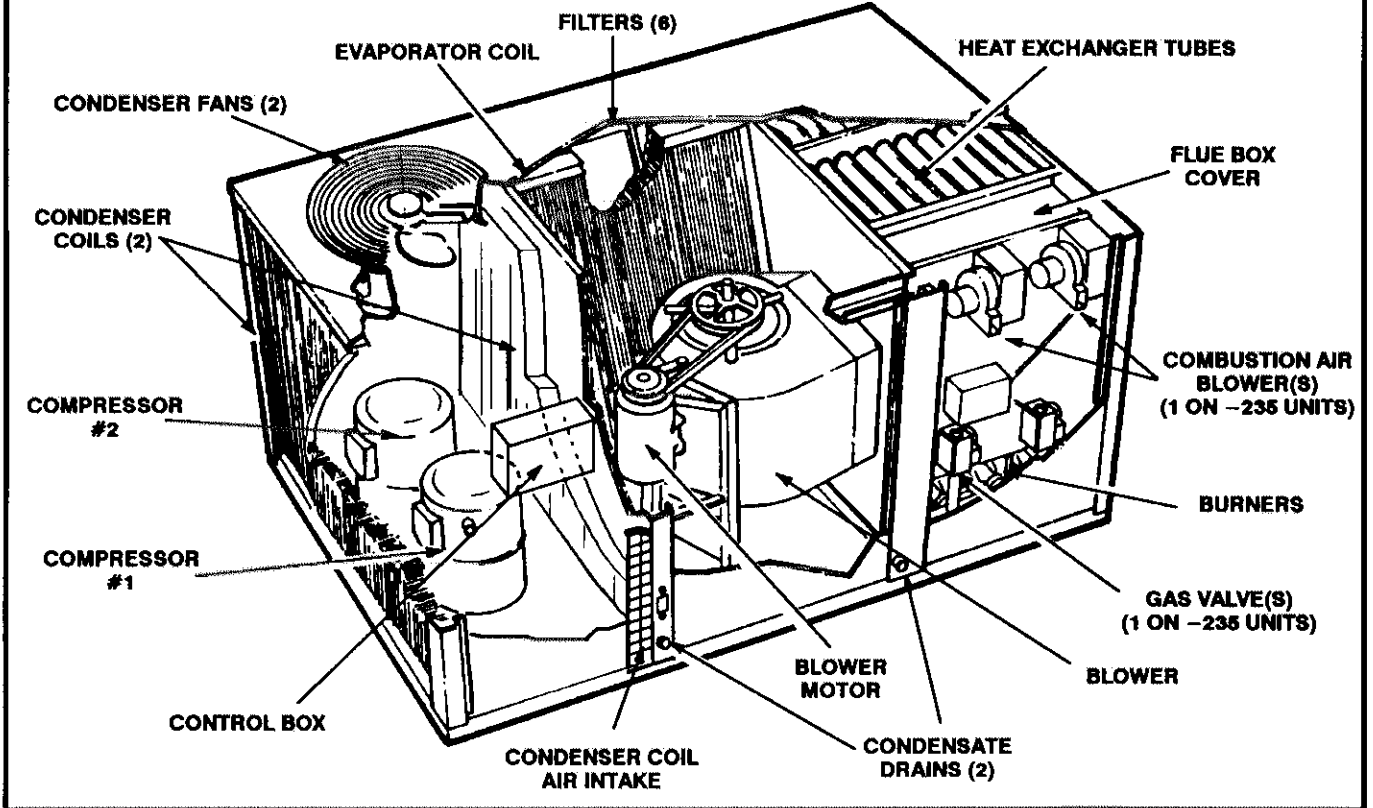
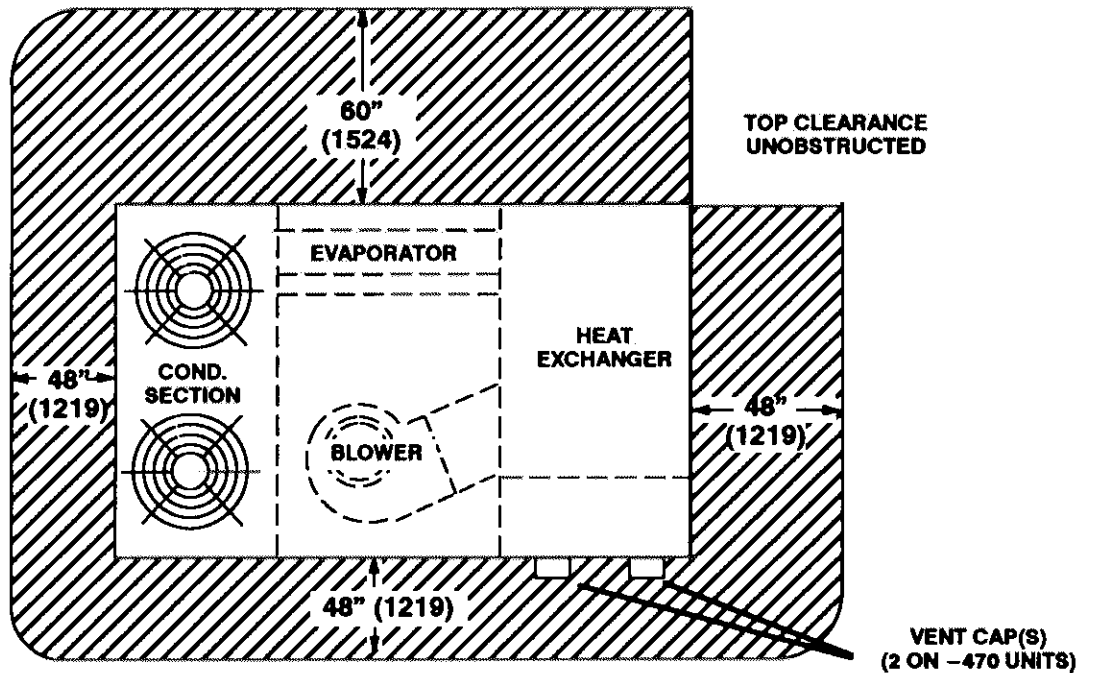
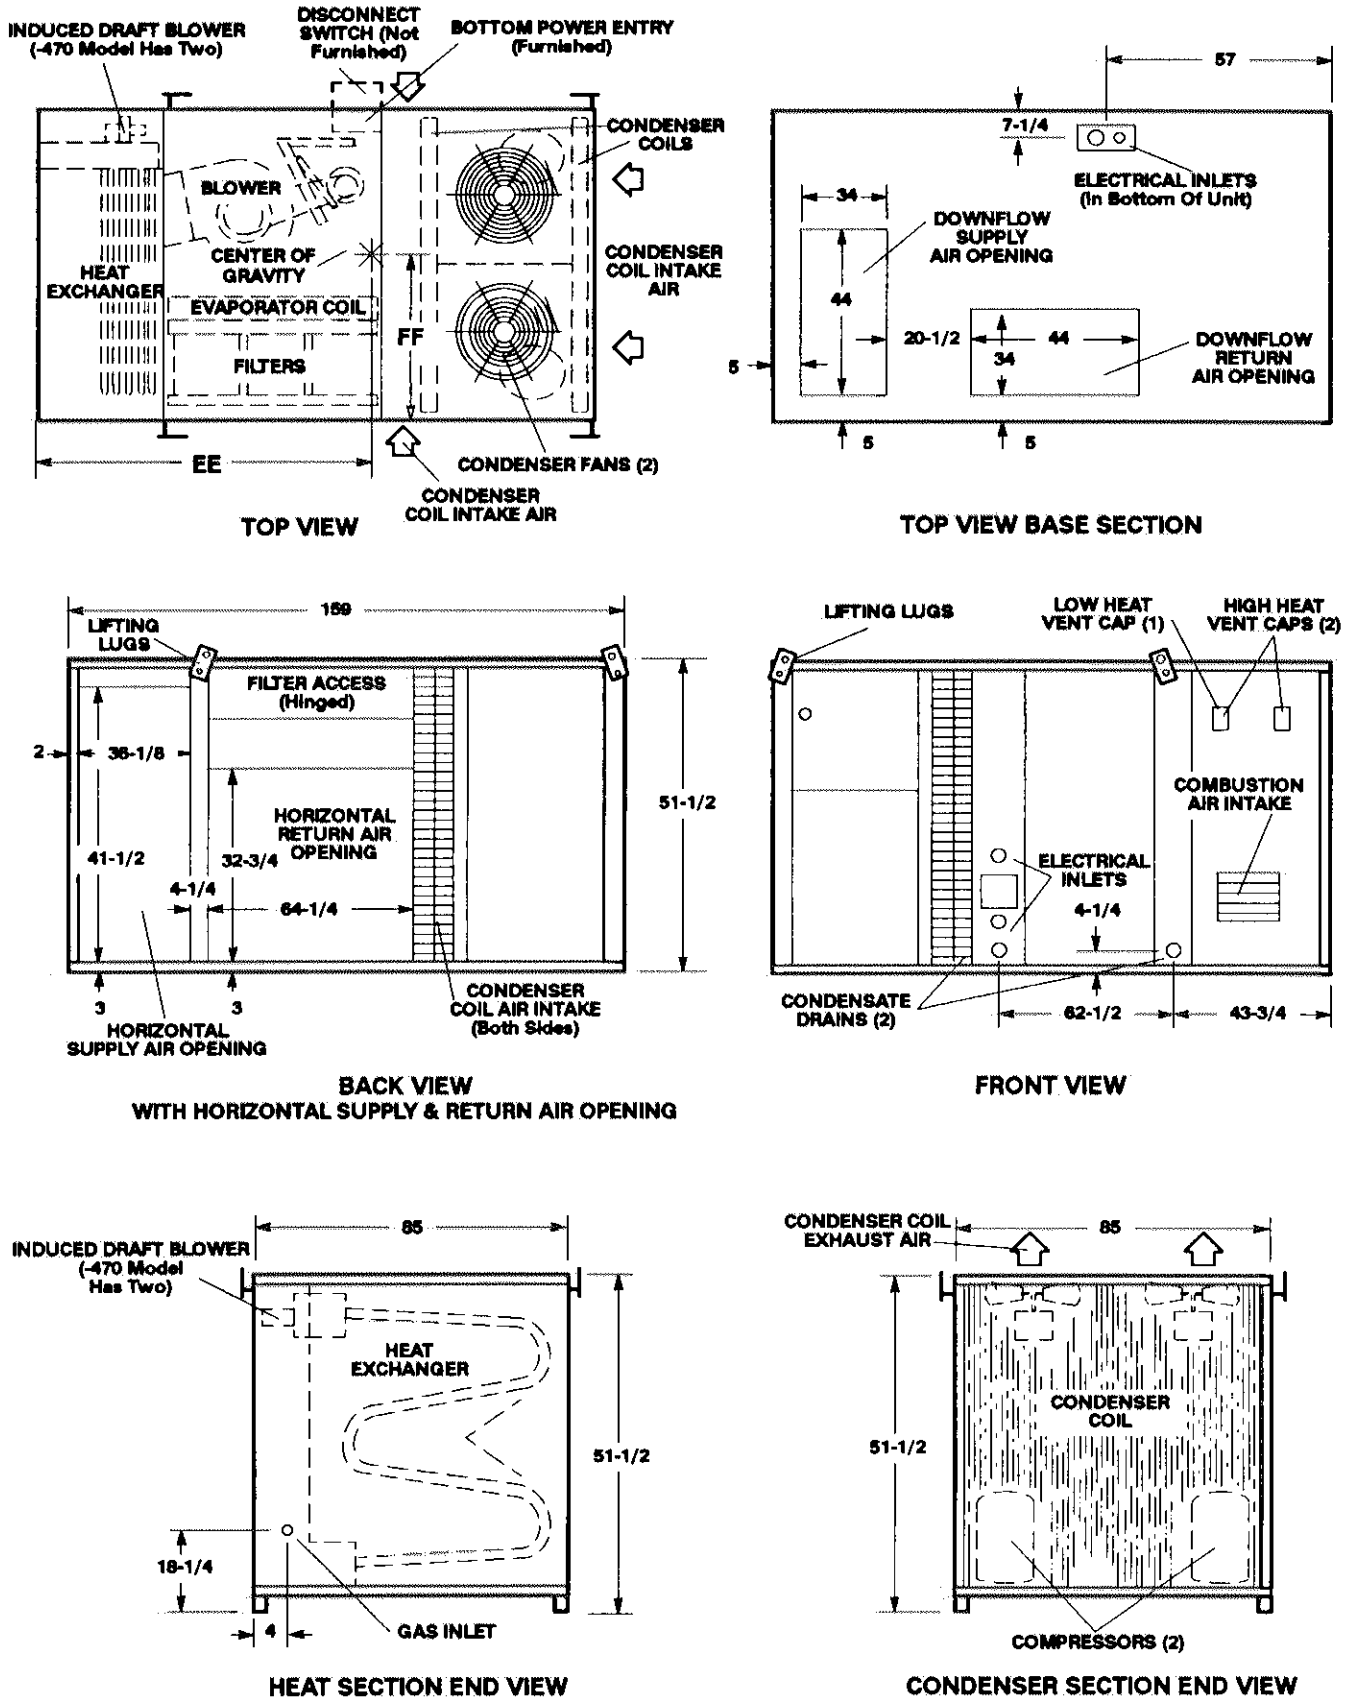
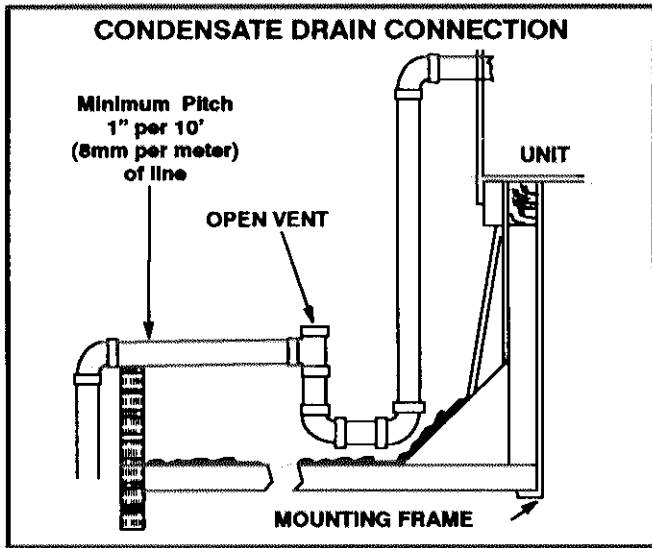

FIGURE 1
FIGURE 2
FIGURE 3
FIGURE 5
See figure 1 for parts arrangement, figure 2 for service clearances and figure 3 for unit dimensions.
The GCS16 unit is American Gas Association (A.G.A.) certified for outdoor installations only at the clearances to combustible materials listed on unit nameplate and in figure 2.
The GCS16 unit is Canadian Gas Association (C.G.A.) certified combination heating/cooling for outdoor installations and non-residential use only at the clearances to combustible materials as listed on the unit nameplate and in figure 2.
- 1— Specified installation clearances must be maintained when mounting GCS16 units. Refer to figure 2.
Make drain connection to the 1" N.P.T. drain nipple provided on unit. A trap must be installed between drain connection and an open vent for proper condensate removal. See figure 5. It is sometimes acceptable to drain condensate onto the roof or grade; however, an elbow should be fitted to the trap to direct condensate downward. The condensate line must be vented. Check local codes concerning condensate disposal. Refer to figure 1 and 3 for condensate drain location.
- 2— The unit is provided with power entry knockouts through the base and the blower section mullion (see figure 3).